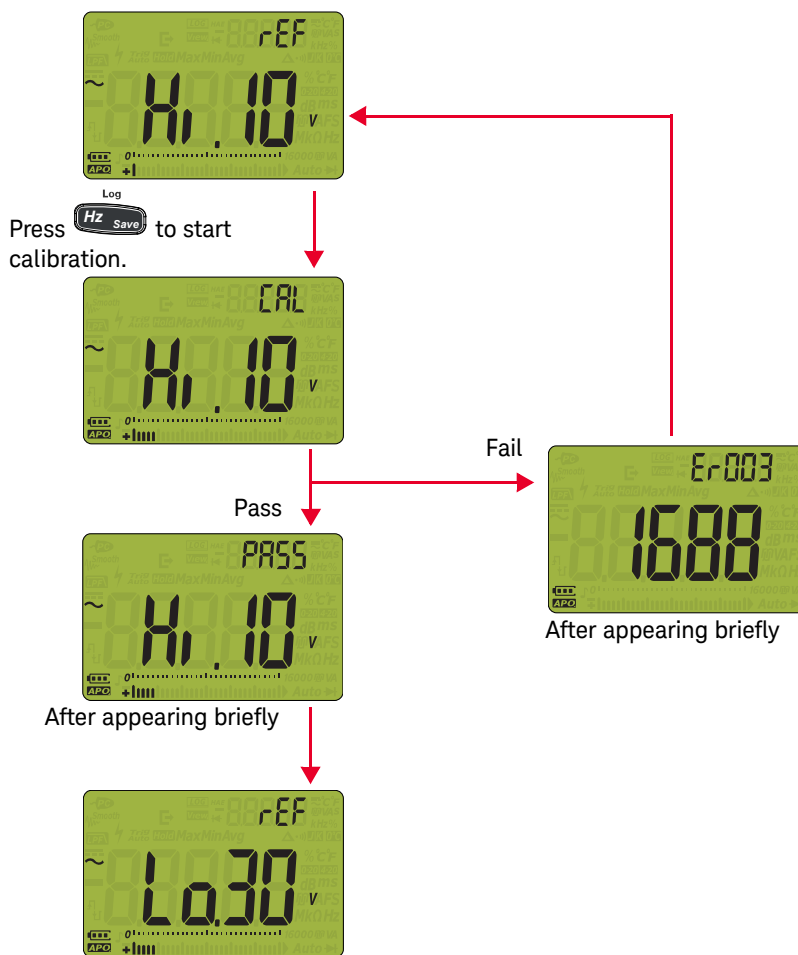

Figure 1-8 Multimeter display for Vsense (non-contact voltage) calibration
- See **Figure 1-8** for the multimeter display.